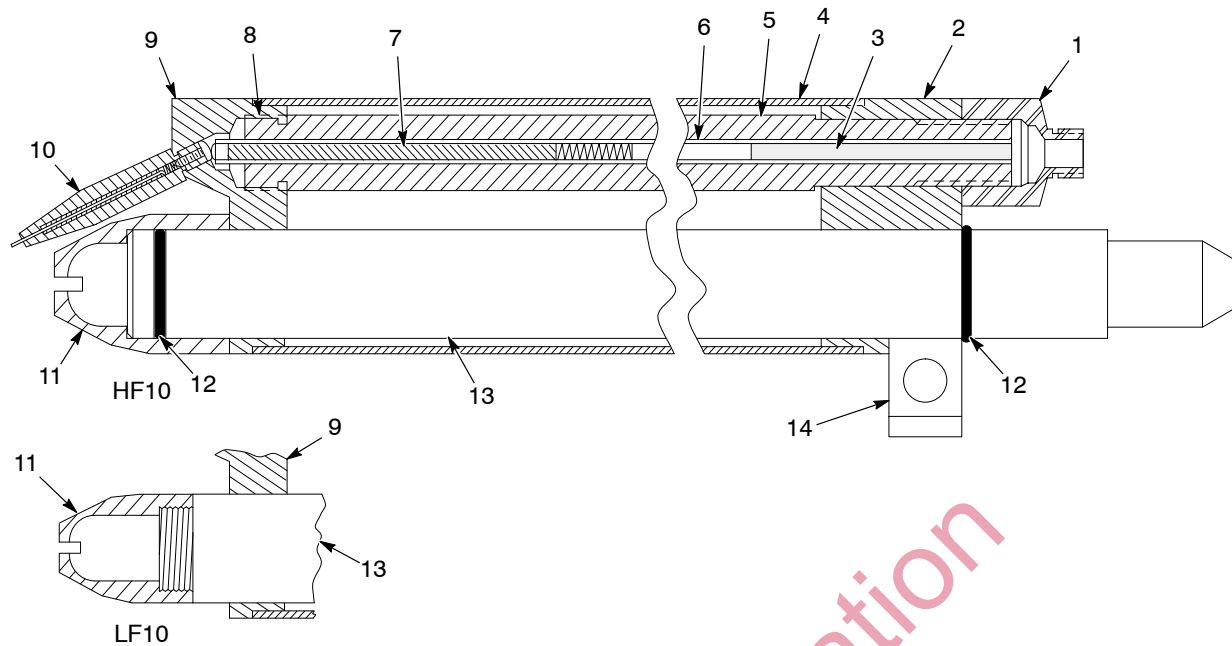

Figure 3 Resistor and Powder Tube Replacement
4. Look into the cable adapter (9) and make sure the insulating tube is filled with dielectric grease. Insert the spray gun end of the cable into the cable adapter until it is pressing against the resistor spring (item 7, Figure 3). Wipe off the dielectric grease extruded from the cable adapter.
See Figure 3.